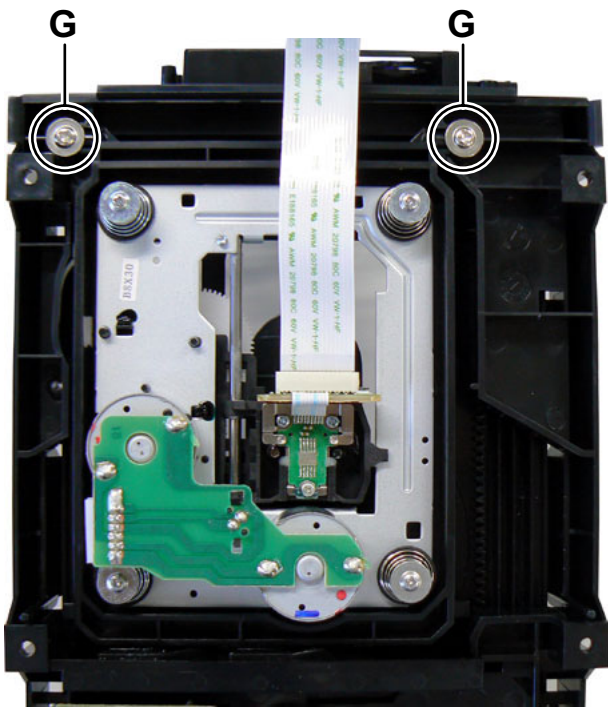

Fig. 11
3.1.6 Removing the Traverse mechanism (See Fig.11)